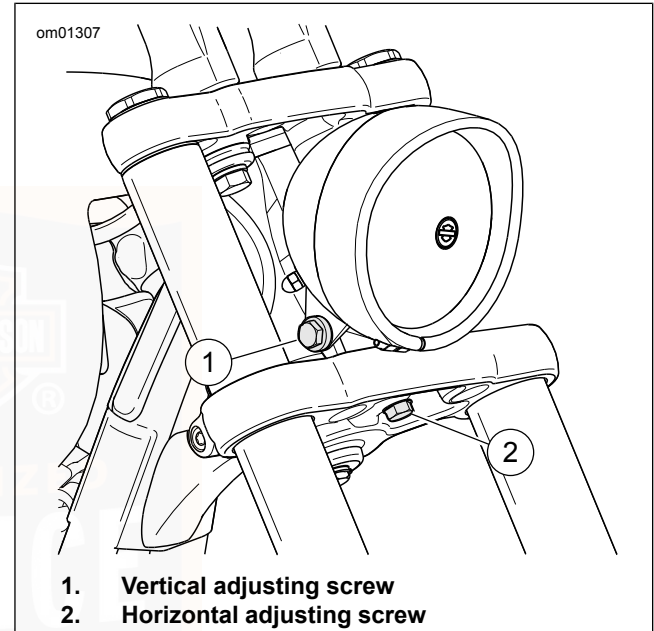

Figure 79. Headlamp Adjustment
2. See Figure 79. Adjust headlamp horizontal alignment.
- a. Loosen horizontal adjustment screw (2). Adjust headlamp horizontally to direct light beam straight ahead.
2. See Figure 79. Adjust headlamp vertical alignment.
- a. Loosen vertical adjustment screw (1). Adjust headlamp vertically until beam centers on horizontal line.
- b. Tighten vertical adjustment screw (1):